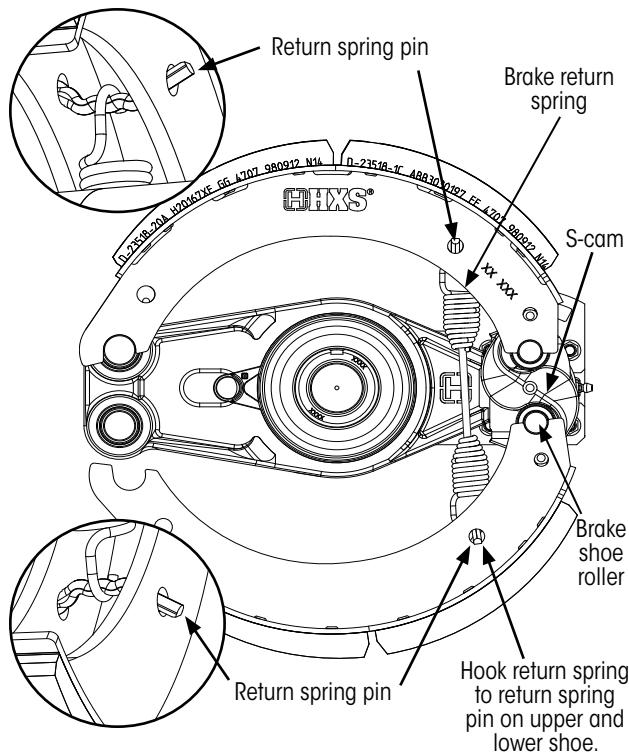

Figure 42: Lower brake shoe on S-cam
5. If necessary, install a return spring pin (See Figure 42 on page 31) in the replacement upper and lower brake shoes.
11. **Position** the lower brake shoe roller on the S-cam (Figure 42).